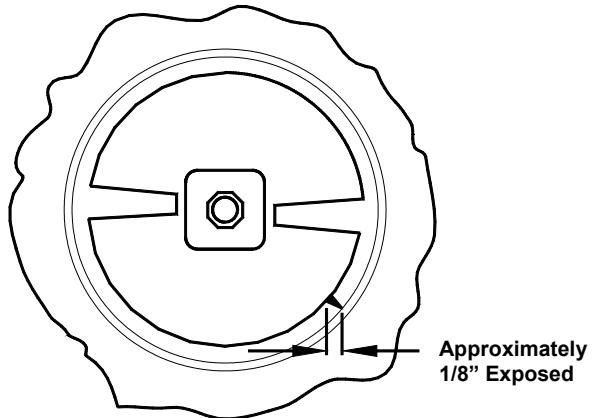

Fig. 17
- f. While maintaining force against the dasher, rotate it slowly until the tongue of the dasher engages the groove in the drive system at the rear of the cylinder. The outer most portion of the dasher should be recessed approximately $1/4"$ to $3/8"$ inside the freezing cylinder. No part of the dasher should extend outside the cylinder. Scraper blades should be visible (Fig. 17) extending approximately $1/8"$ beyond the dasher.